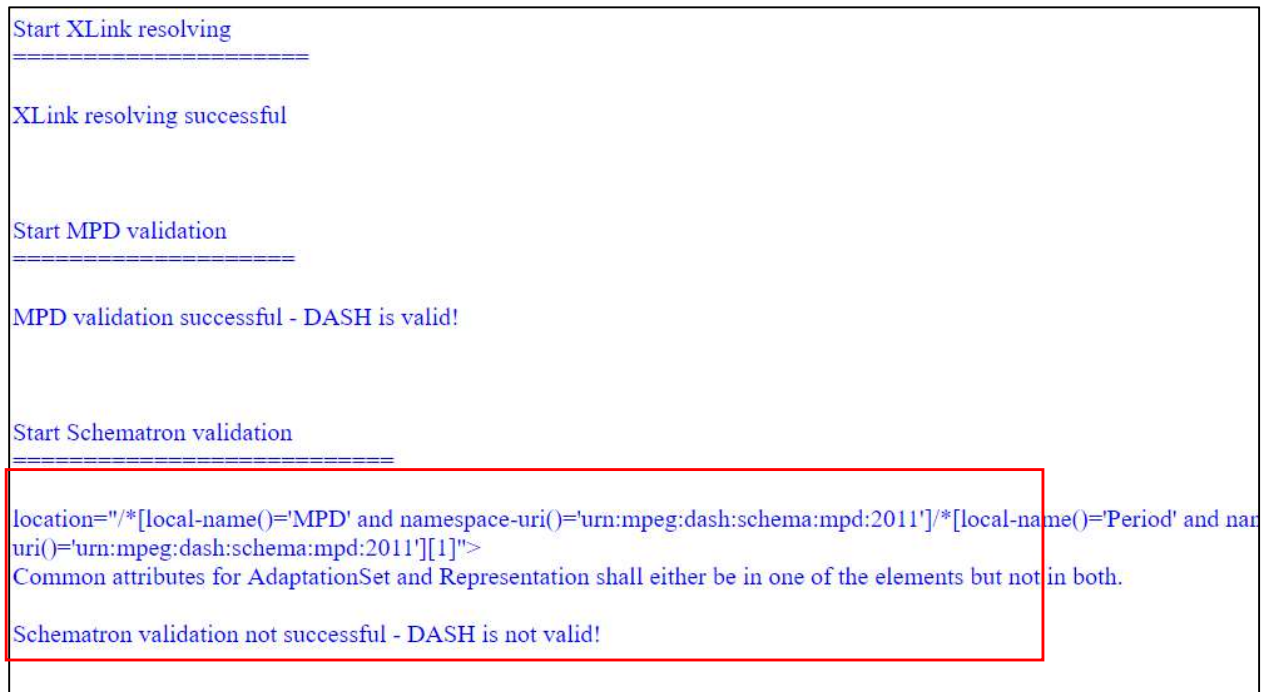

Figure 12 MPD error report
9. The 'mpd error log' can be opened by double-clicking the provided link. The report opens in a new tab. As shown in Figure 12, the abovementioned error from Schematron section is highlighted.